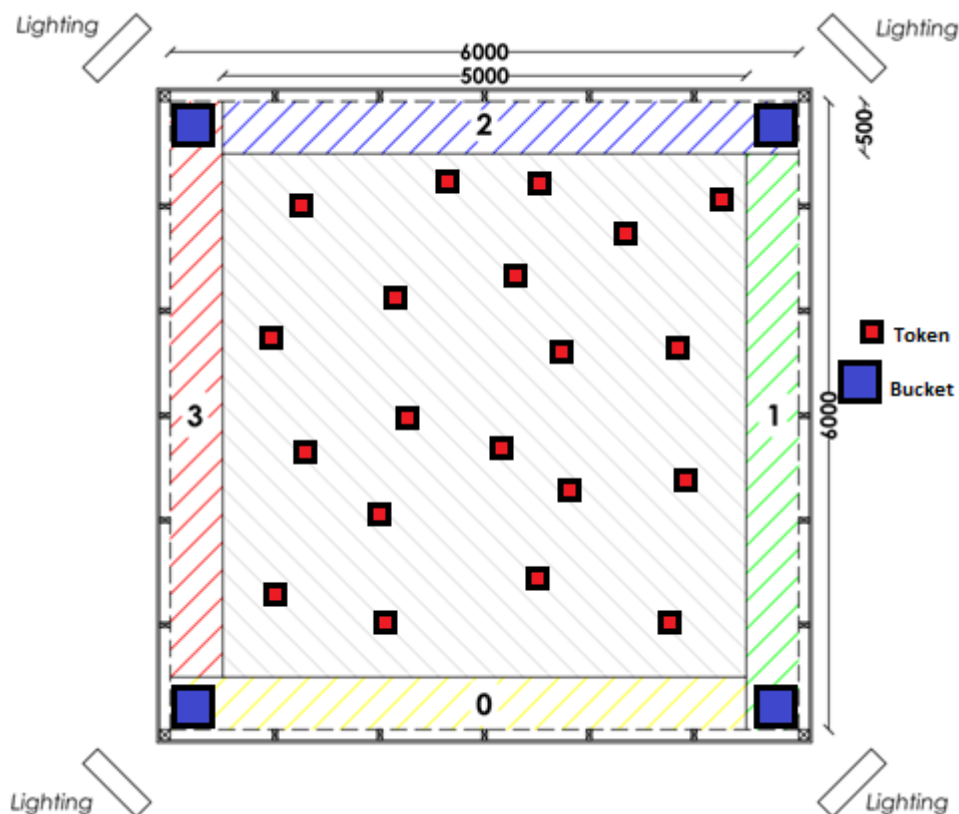

Figure 1: A bird's-eye view of the arena.
- 3.2.1 The arena floor, overall, is a 6m x 6m square, as shown in figure 1. The tolerance of these two dimensions is $\pm 0.25\text{m}$.